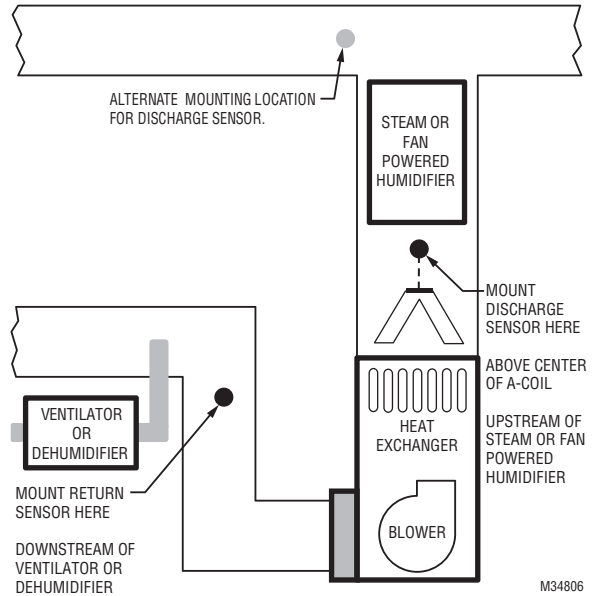

Fig. 9.
2. When possible, mount the Discharge Air Temperature Sensor upstream of a Steam Humidifier or a Fan Powered Humidifier that is ducted to the supply. See Fig. 9–10.
3. If space does not allow a Discharge Air Temperature Sensor upstream of a Steam Humidifier or Fan Powered Humidifier, mount the Discharge Air Temperature Sensor downstream of the Humidifier. See Fig. 9.